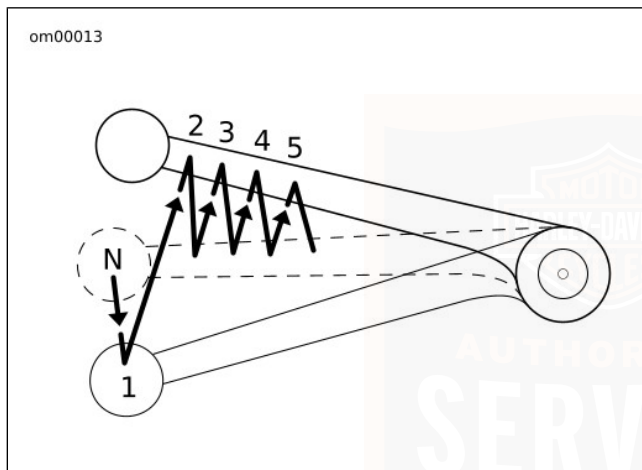

Figure 37. Shifting Sequence: Upshift
3. See Figure 37. Lift the gear shift lever up to the end of its travel and release.